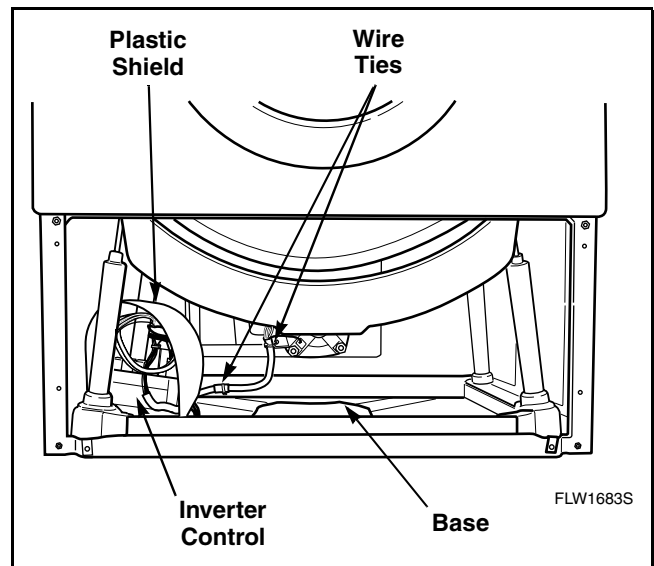

Figure 15
- Remove screws holding inverter control to base of washer. Refer to *Figure 15*.
- Position the new inverter control on base of washer as shown in *Figure 15*. Reinstall screws (removed in Step f) and tighten firmly.
- Secure wires to base and motor using new wire ties. Refer to *Figure 15*.